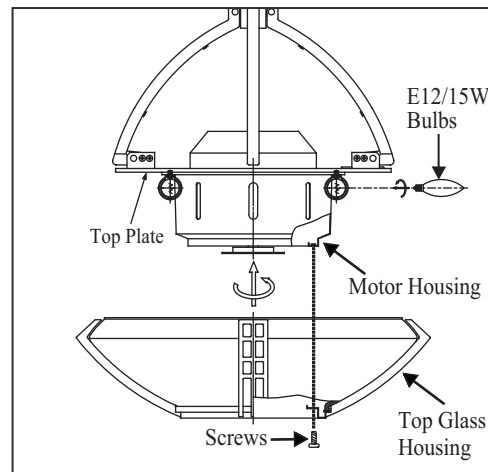

Figure 13
1. Install 4 x 15W bulbs (provided) into the sockets of the top plate on the top of motor (Fig. 13).
2. Remove 1 of the 4 screws from the glass housing and keep it for future use. Loosen the other 3 screws. (Do not remove). Hold up the top glass housing to ceiling fan assembly. Get through the three screws on glass housing into the three key holes located on the bottom of motor housing, twist clockwise to set glass housing firmly with motor housing. Secure by tightening the 3 screws previously loosened and the one previously removed. (Fig. 13)